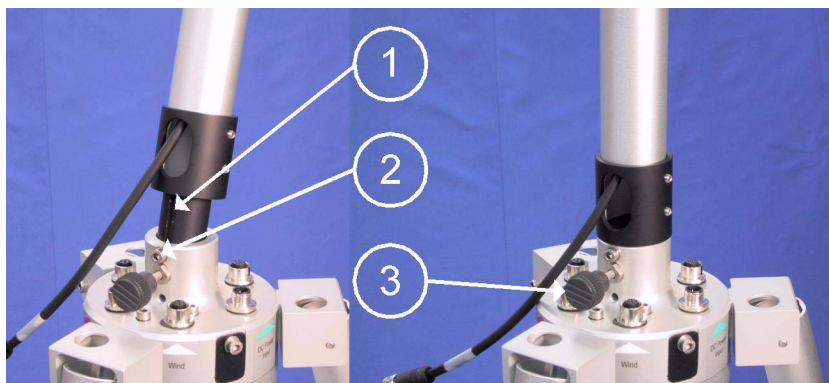

Figure 94 Attaching the Wind/Telescopic Mast
9. Attach the wind mast / telescopic mast to the upper base of the tripod. First lead the cable through the opening on the mast. Loosen the hand screw (number 3 in Figure 94 on page 103). Guide the mast into its place with the notch (1) facing the screw (2). Press the mast in place and tighten the hand screw (3).